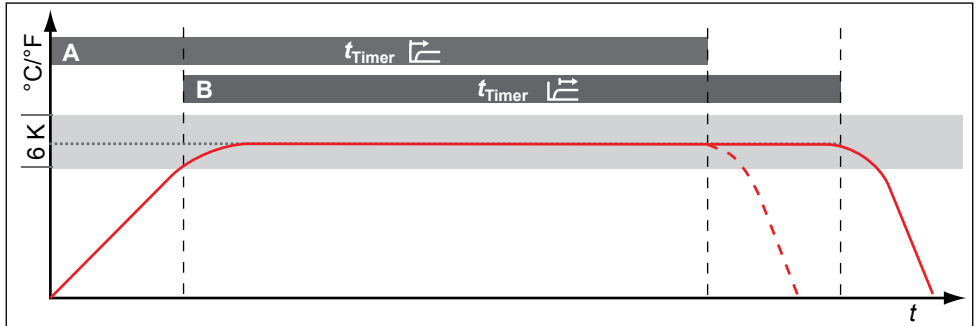

Fig. 24 Timer mode
For universal ovens UN^{PLUS}/UF^{PLUS} and incubators IN^{PLUS}/IF^{PLUS}, you can choose if the timer (see page 27) should run setpoint-dependent or not – this determines if the timer should not start until a tolerance band of ± 3 K around the set temperature is reached (Fig. 24, B) or if it should start right after activation (A).